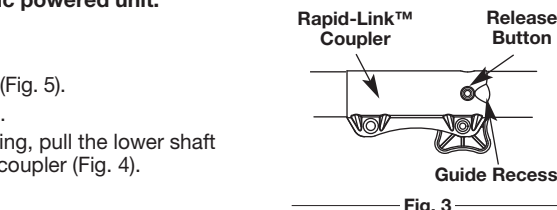

Fig. 3
2. Press and hold the release button (Fig. 3).
NOTE: Aligning the release button with the guide recess will help installation (Fig. 3).